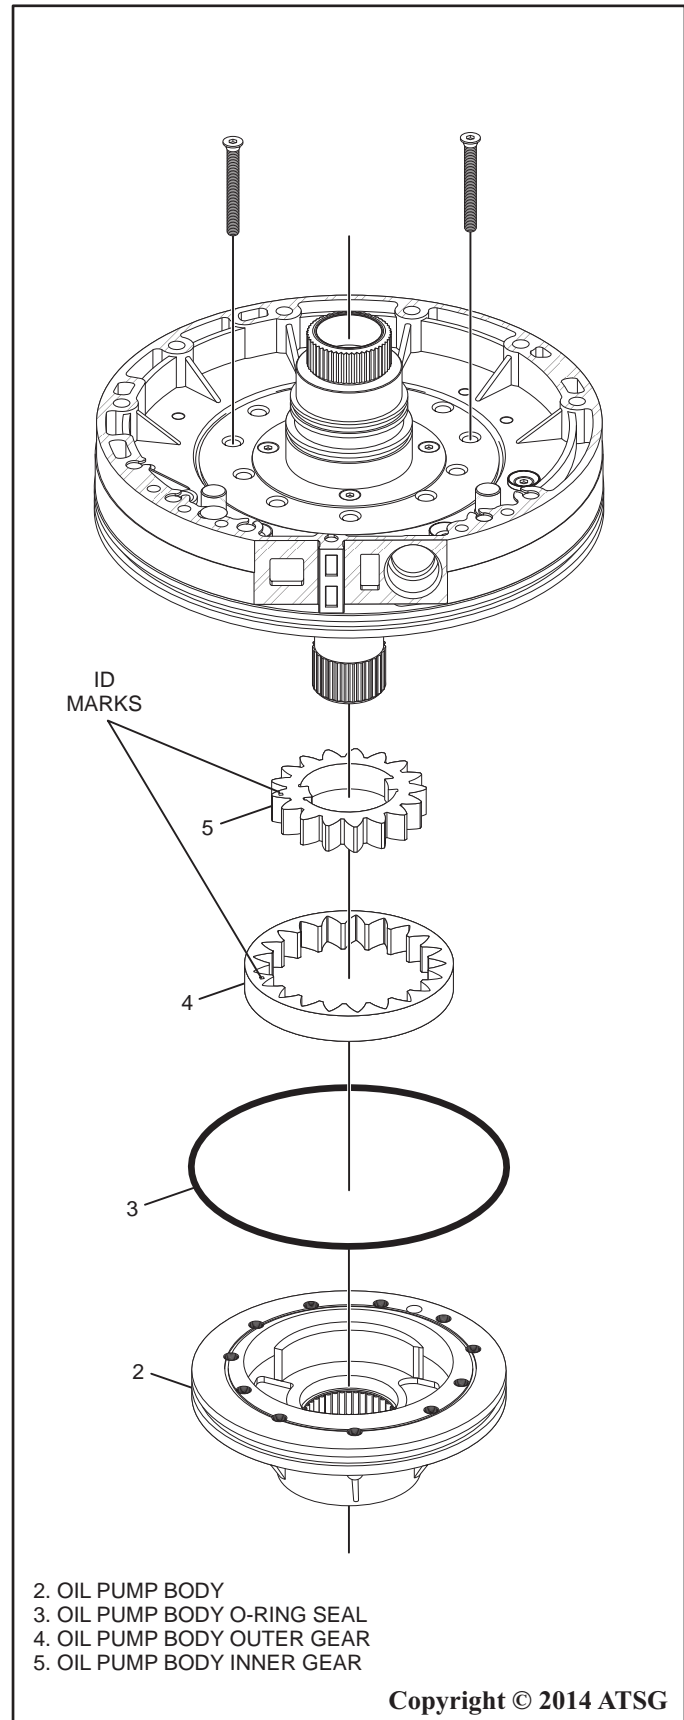

Figure 64
9. Remove the oil pump body o-ring seal from the pump body as shown in Figure 64 and discard the o-ring.
10. Remove the oil pump body inner and outer gear from the pump body as shown in Figure 64.